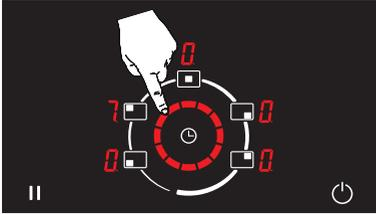

Figure 36
2. The cooking area for which the auto cooking function (**R**) is set is adjusted to the required temperature level using the rotating slide control and the auto cooking function (**R**) is terminated. (See Fig. 36)